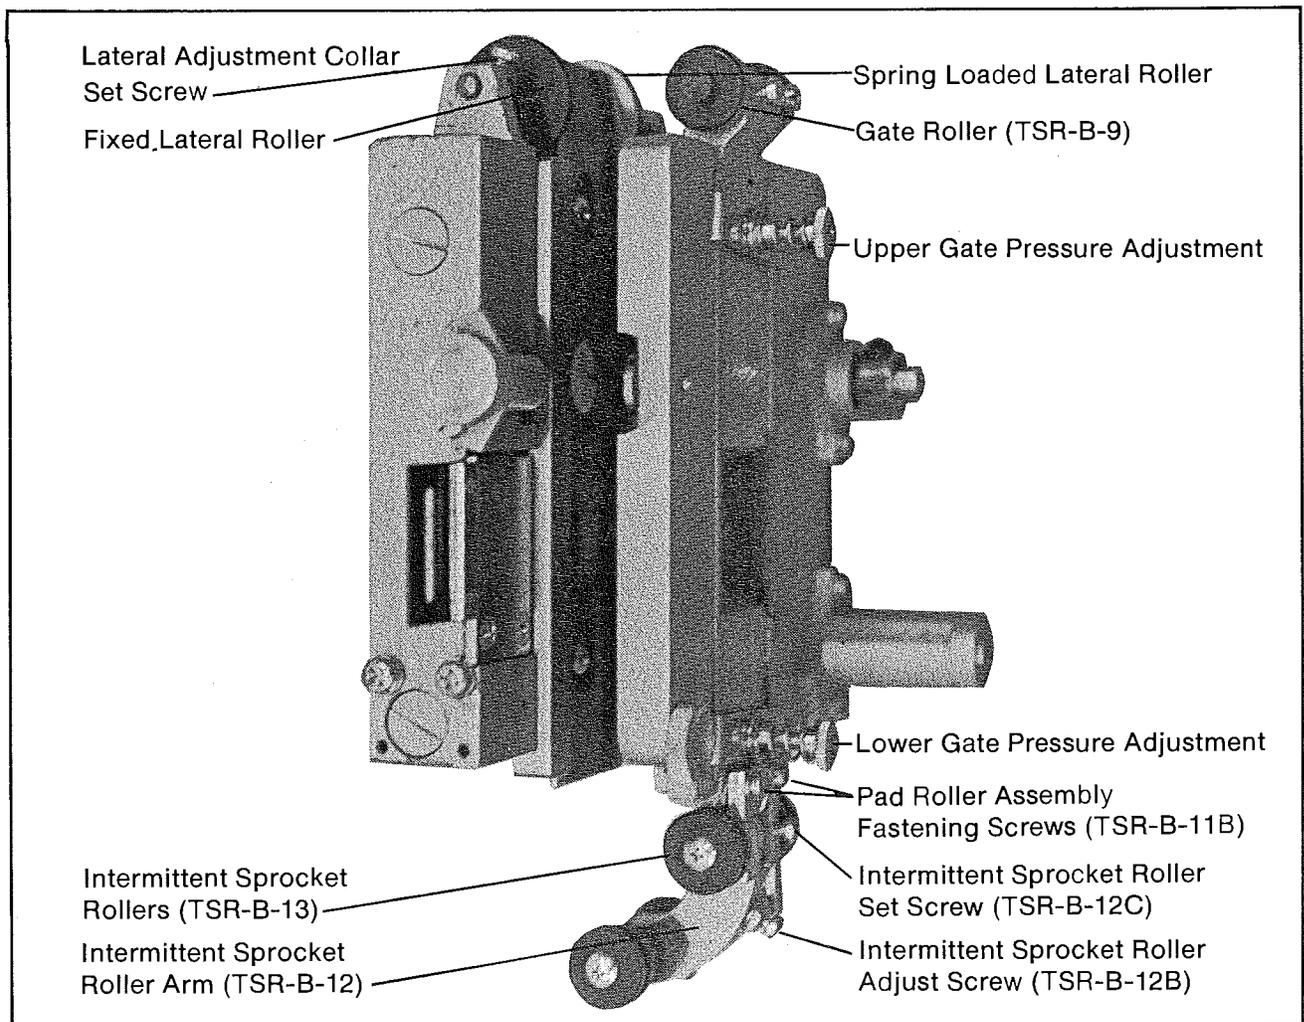

Fig. 6-5:
- 6.9.2 To adjust the Intermittent Sprocket Pad Roller Assembly, first thread two film thicknesses through the Gate (TSR-BA), over the Intermittent Sprocket and over the Take-Up Sprocket (TSR-G-14B), being careful to maintain the correct size film loop between these two sprockets. Push the Gate Assembly closed to secure the film over the Intermittent Sprocket. Carefully loosen, but do not remove, the two Pad Roller Assembly Fastening Screws (TSR-B-11B × 2), grasp the Pad Roller Upper Mounting Bracket (TSR-B-11) and position same so that both the upper and lower pairs of Intermittent Sprocket Pad Rollers (TSR-B-13 × 4) are in the correct azimuth and lateral position in relation to the Intermittent Sprocket. This is determined by viewing the Pad Assembly head-on, from the front of the projector, to see that each of the four Rollers' middle slot is properly centered over its corresponding row of sprocket teeth. When the correct setting is achieved, securely tighten the two Pad Roller Assembly Fastening Screws (Fig. 6-5).
- 6.9.3 There are two roller assemblies which hold the film in a proper wrap around the Intermittent Sprocket. The Upper Roller Assembly should be adjusted for two thicknesses of film by loosening the Set Screw (B-12C) and rotating the eccentric shaft to a proper position. The Lower Roller Assembly is mounted on a spring loaded Radius Arm (B-12). This roller assembly should just touch the sprocket with no film in the gate. This roller assembly may be adjusted in two ways. The roller assembly is on an eccentric shaft and may be adjusted in the same manner as other similar assemblies on the projector. Additional adjustment is provided by a Screw and Lock Nut (B-12B) located in the center of the radius arm and just above the lower roller shaft set screw (see Fig. 6-5).
- 6.10.1 The Tokiwa TSR projector's Film Gate/Trap Assembly (TSR-B) (Fig. 6-5) utilizes a unique combination of precision lateral guide rollers, gate pad rollers and elongated film guide and gate pressure shoes to provide maximum film control for outstanding picture stability. Correct adjustment of the Film Trap Lateral Guide Rollers (TSR-B-5 × 2) provides proper guidance and stabilization of the film as it travels through the Gate/Trap Assembly and past the Main Aperture (TSR-B-2). This subsequently limits the amount of horizontal picture movement ("side weave") to percentages that are well within industry standards and far superior to performance figures obtained with other projector models.
- 6.11.1 The Film Gate Upper Pad Rollers (TSR-B-9 × 2) (Fig. 6-5) are designed to gently stabilize excessive film loop "slap" as the film passes through the Lateral Guide Rollers (TSR-B-5 × 2) and the Film Trap Guide Shoes (TSR-B-3A, 3B). The Rollers' damping action helps to eliminate picture "jitter" (vertical instability), "side weave" (horizontal instability) and excessive operating noise.